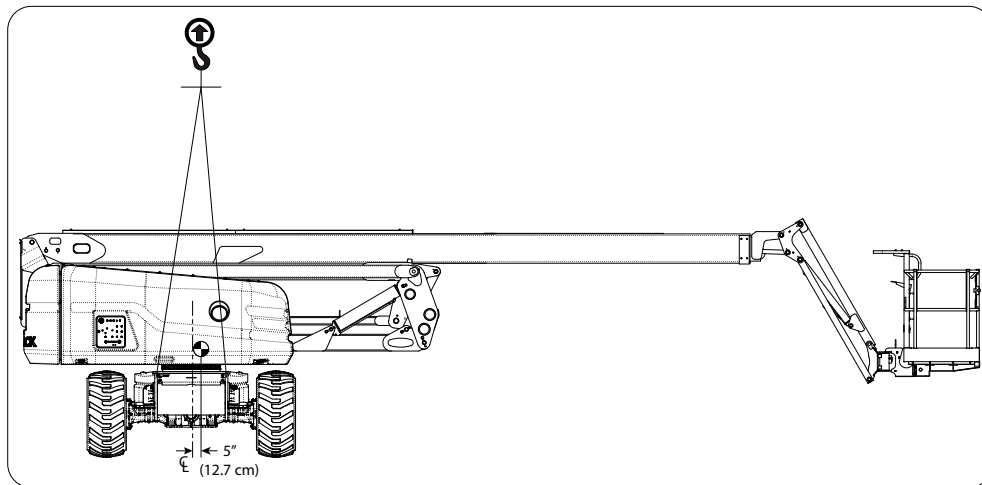

Figure 34 Center of Gravity
1. Rotate the boom and position the MEWP as shown in Figure 34.
4. Properly adjust rigging to ensure MEWP remains level during lifting. See Center of gravity location (Figure 34).